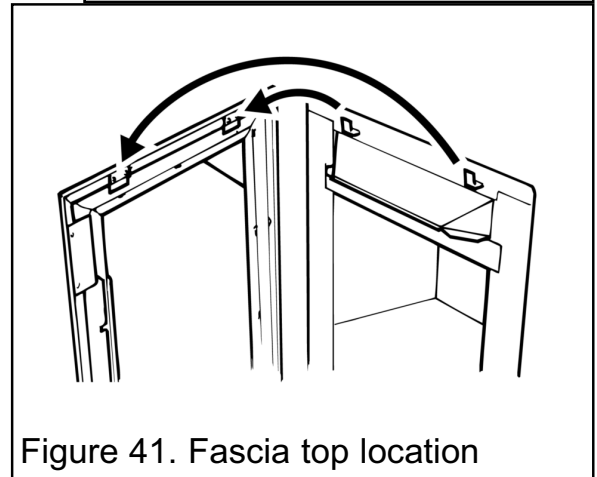

Figure 41. Fascia top location
- iii)* Carefully lift the fascia upward to clear the upper retaining brackets on the convection box (See figure 41). Pull the fascia clear and place carefully aside.